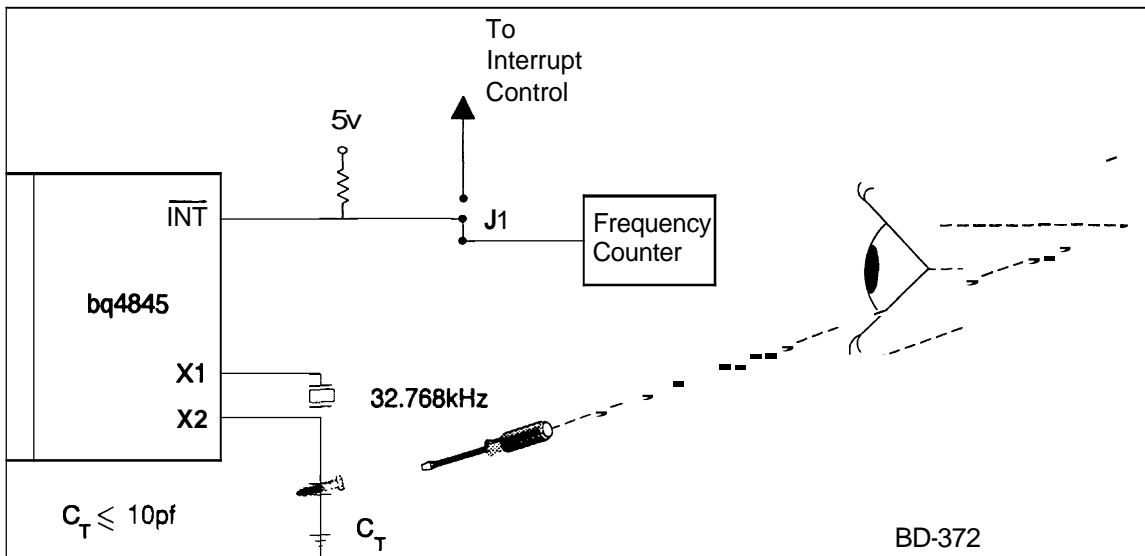

Figure 8. Frequency Adjustment
- Equivalent **bq4287** design (Figure 8, Table 9)